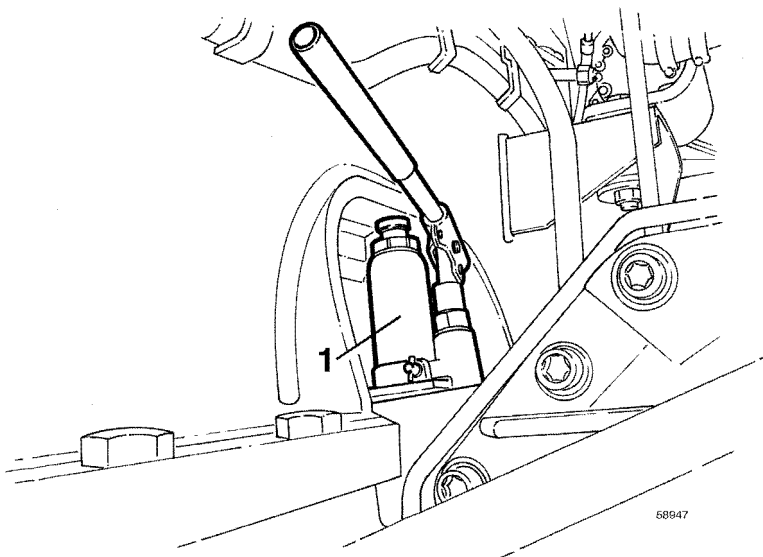

Figure 4
9. Block the rear axle oscillation by positioning a jack on either side of the machine between frame and rear axle, see Figure 4.